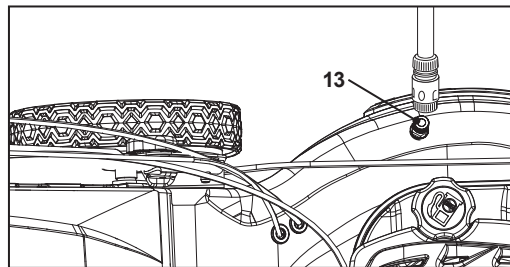

Fig. 28
1. Carry out the water supply deck cleaning in a flat area with good water drainage. Connect a garden hose to the water inlet (13) on the mower deck (Fig. 28).
3. Pull the brake lever (3) and hold it against the upper grip handle (1), then pull the recoil starter handle (31) lightly to start the engine and cutting blade (33).
4. Stop the engine by releasing the brake lever (3) when no further dirty water or debris can be seen exiting the underside of the product.